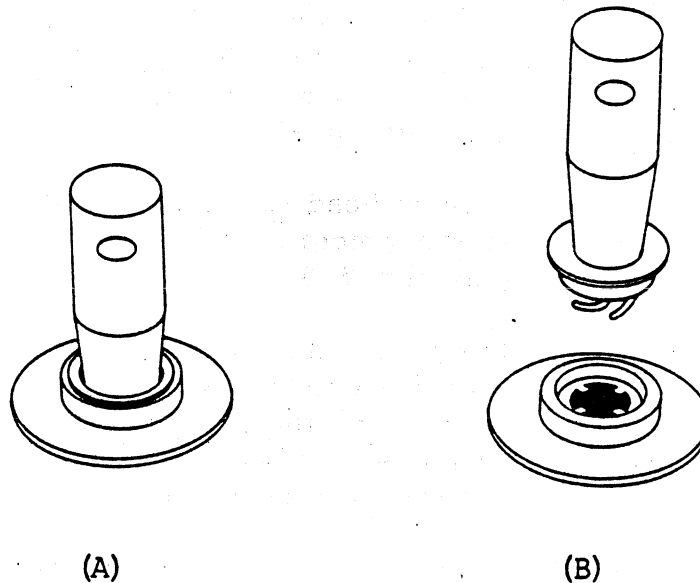

Figure 4-5 Crystal Replacement
Grip the sensor head cap with fingers and pull it straight out by squeezing finger tips in between the lip of the cap and the water cooling tube. Enclosed with each sensor head is a crystal snatcher (P/N 007-035). As shown in Figure 4-5, the crystal snatcher is inserted into the ceramic retainer (A) and a small amount of pressure applied. This tends to lock the retainer to the snatcher and allows the retainer to be pulled straight out (B). Once the crystal has been changed, the retainer may be inserted into the sensor cover and a slight side-to-side motion will release the crystal snatcher. Snap the cap onto the body of the sensor head.
- b. Observe crystal polarity (Figure 4-5).